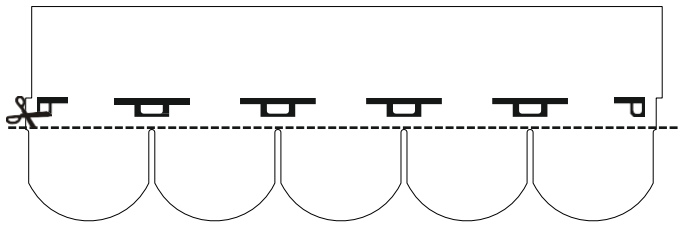
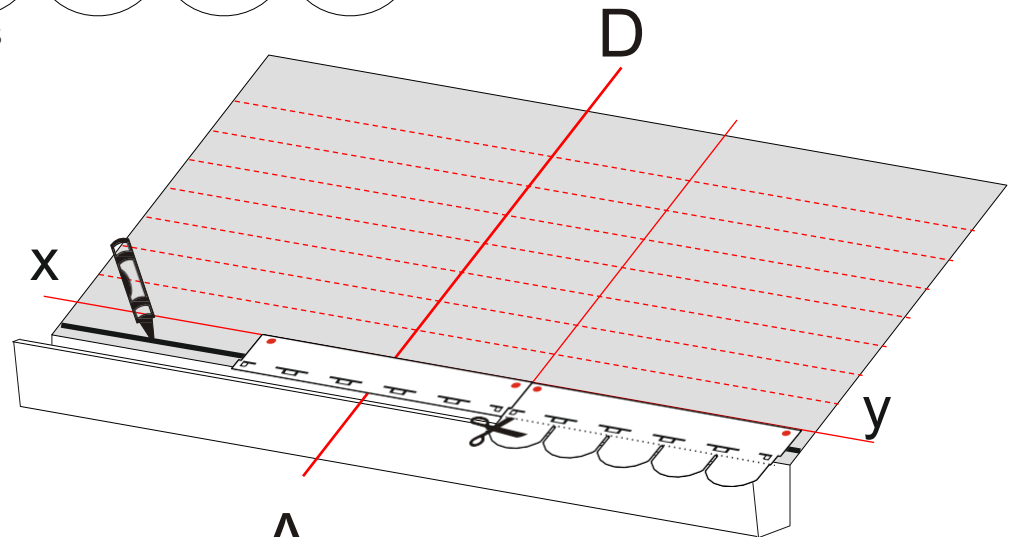

Fig. 2 Trimming the tabs
Fig. 3 - Installation of the starter course
- Apply a line of bituminous mastic “Ondumastic” along the eaves (Fig. 3); trim the tabs from the bituminous shingle to form the starter course (Fig. 2) and align it to the line z (see Fig. 3).